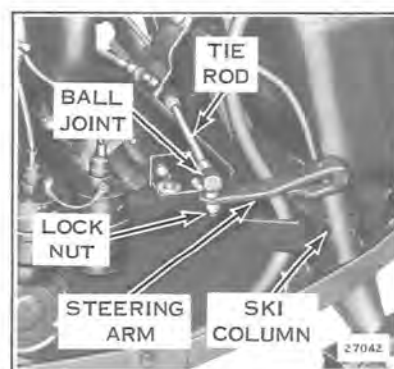

Figure 11-4
4. Remove steering arms from ski column. See Figure 11-4.